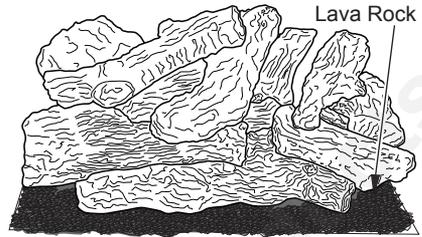

Figure 26 - Installing Lava Rock
3. Place lava rock around base of burner. Make sure burner ports are not covered (see Figure 26).